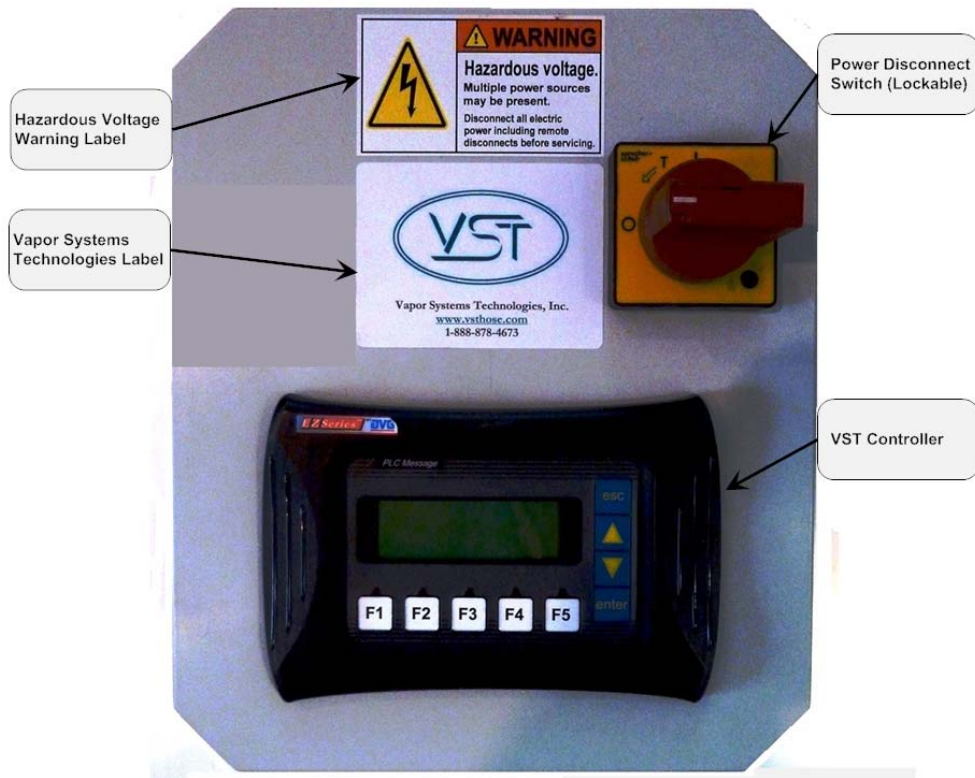

Figure 12: VST Green Machine Control Panel Front View
- The RS422 to RS232 adapter is attached to the top of the VST Control Panel. See figures 12 & 13.